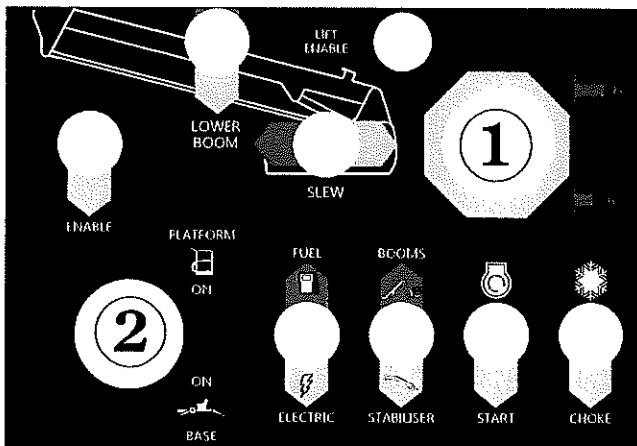

Figure 9.1 - Ground Control Box
1. The **Emergency Stop** switch **1** must be (ON) (see Figure 9.1).
2. The **Platform/Ground Selector** switch **2** (see Figure 9.1) must be set to PLATFORM.